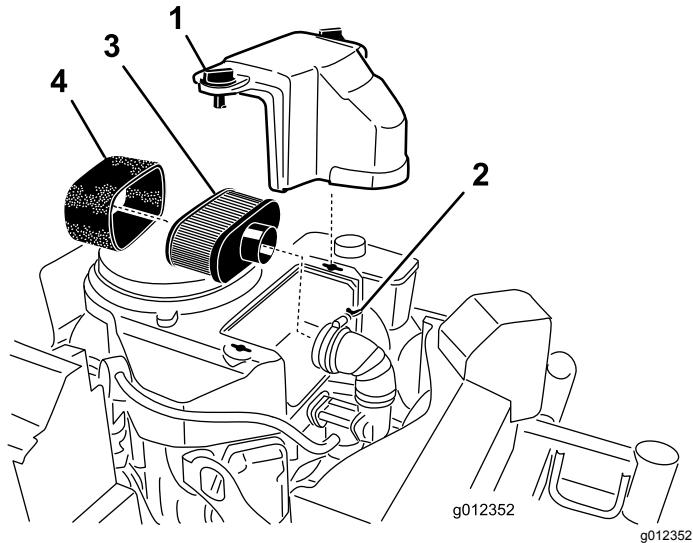

Figure 21
3. Clean around the air cleaner to prevent dirt from getting into the engine and causing damage (Figure 21).
4. Unscrew the cover knobs and remove the air-cleaner cover (Figure 21).
5. Unscrew the hose clamp and remove the air-cleaner assembly (Figure 21).
6. Carefully pull the foam element off the paper element (Figure 21).
1. Do not clean the paper filter. Replace it (Figure 21).
1. Carefully slide the foam element onto the paper air-cleaner element (Figure 21).
2. Place the air-cleaner assembly onto the air-cleaner base and secure it with the 2 wing nuts (Figure 21).
3. Place the air-cleaner cover into position and tighten the cover knob (Figure 21).